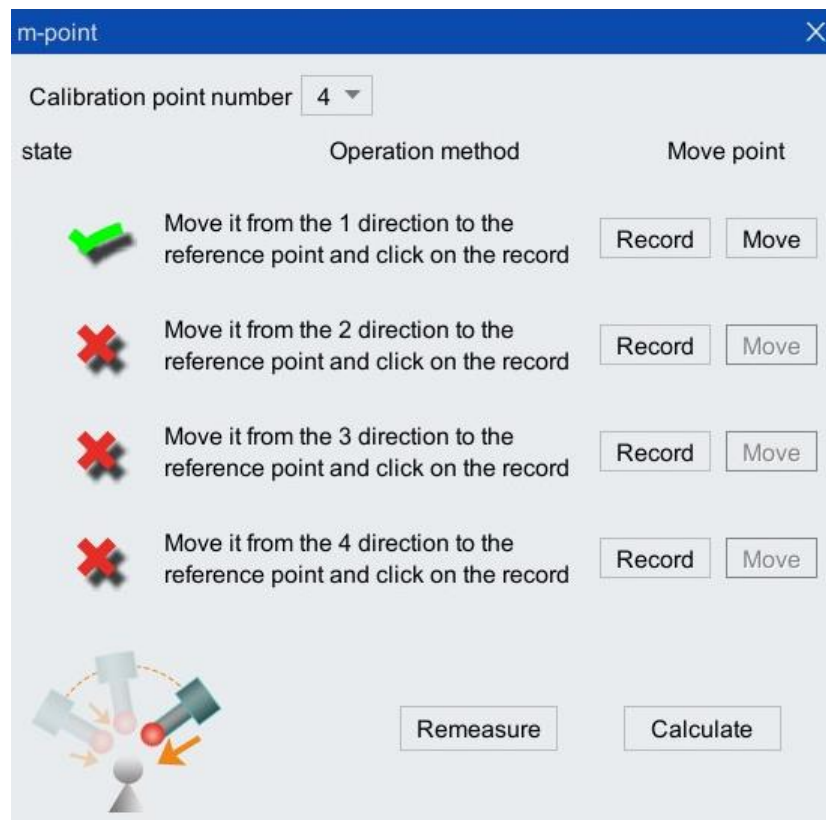

Figure 4-4 Indicates the successful 1 point interface state
- Step4. Just follow the operating instructions in the figure for calibration. After each point is successfully calibrated, the \times in front will change to \checkmark , as shown in Figure 4-4.